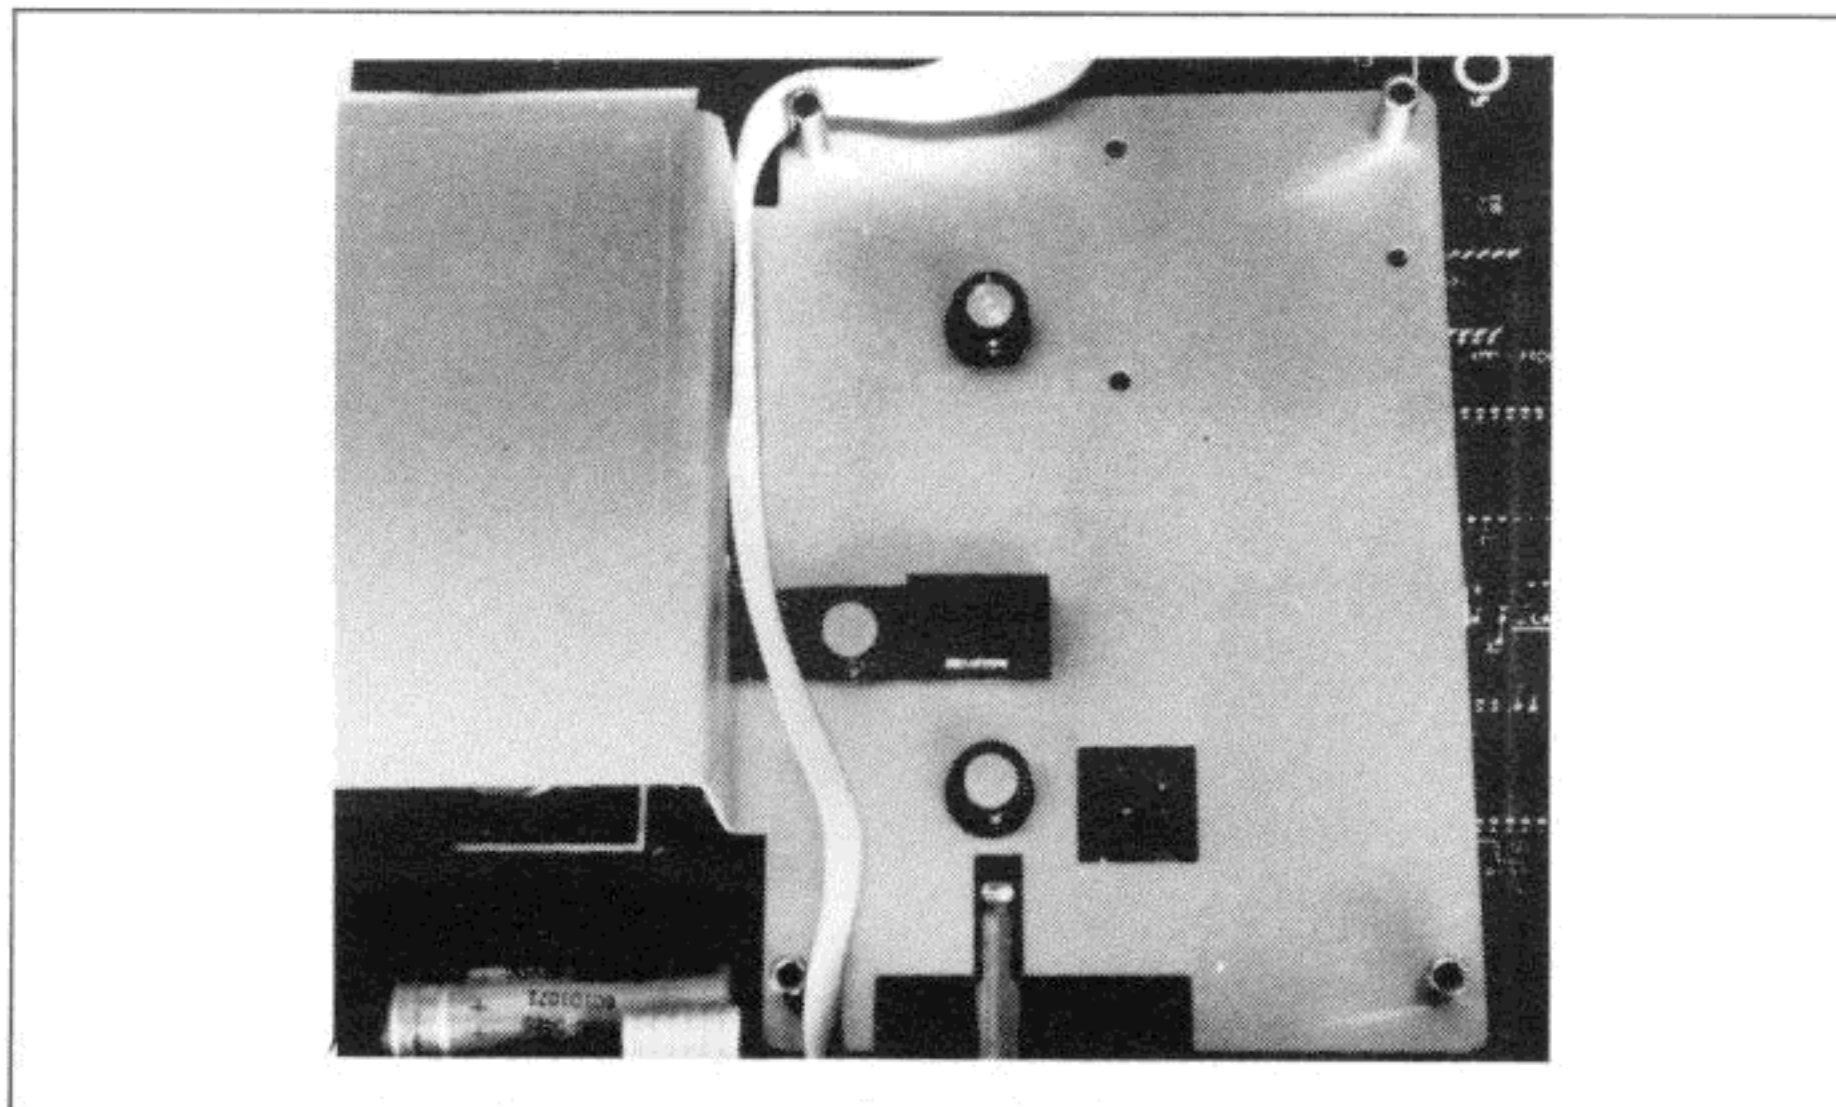

Figure 4-2-4. Metal Shield
h. If there was previously an HP-IB assembly installed in the HP 3421A, continue with step k. If no HP-IB assembly was previously installed (i.e., you are installing the HP-IB option the first time), remove the metal shield and discard it (see Figure 4-2-4). A new shield with shorter standoffs is supplied with the option.